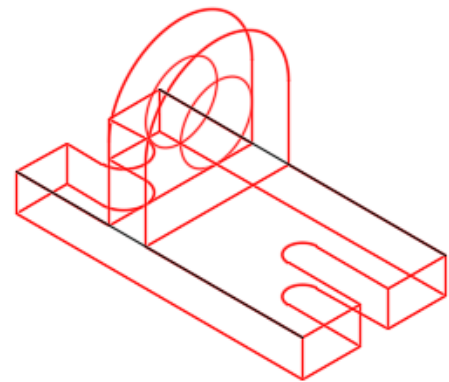

Figure Step 6
Step 6 On layer: Construction, draw a line along the top edge of each side of the model. (Figure Step 6)